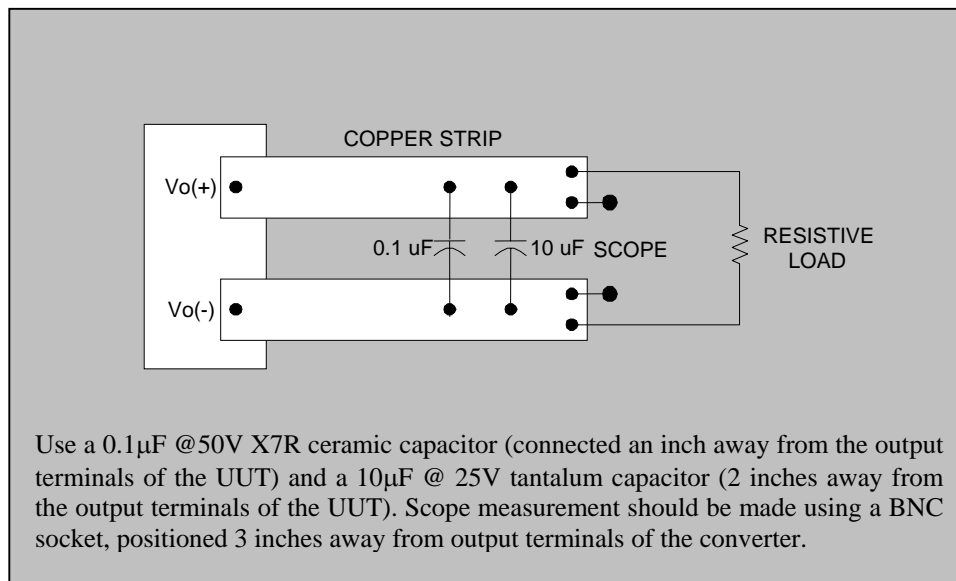

Figure 2. Peak to Peak Output Noise Measurement Setup.
3. See Figure 2 for the Output Ripple and Noise Test Measurement Setup.